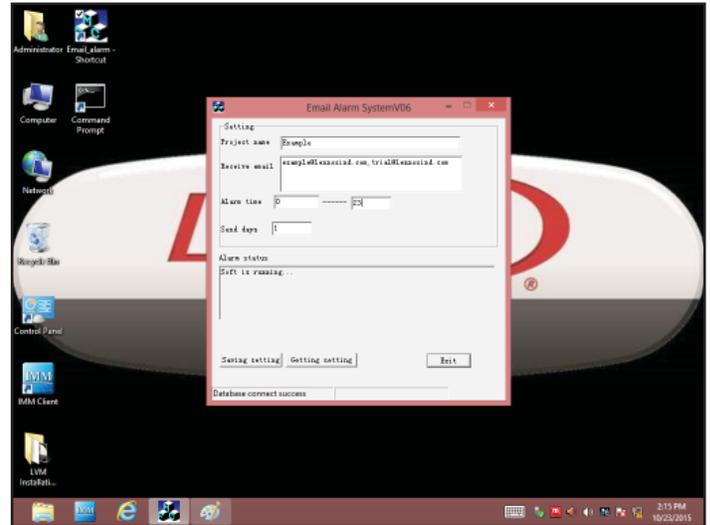

Figure 64. Email Alarm Screen
2. Double-tap the shortcut and wait for the window to open See figure 64.